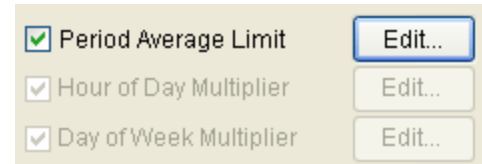

Figure 11.81 Period Average Limit Modified from Default Values
4. Click **OK** to close the **Period Average Limit** editor. In the rule editor, the check box in front of the Period Average Limit will display a check mark (Figure 11.81). You will notice that the other two options (“Hour of Day” and “Day of Week” Multipliers) are no longer available since the Period Average Limit option has been checked.